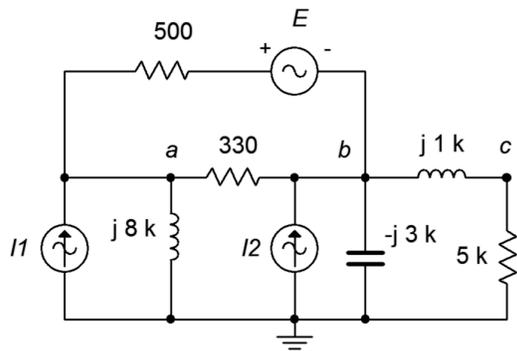

Figure 6.31
66. Given the circuit in Figure 6.31, use nodal analysis to find  $v_{ac}$ .  $I_1 = 8E-3\angle 0^\circ$ ,  $I_2 = 12E-3\angle 0^\circ$ ,  $E = 50\angle 0^\circ$ .